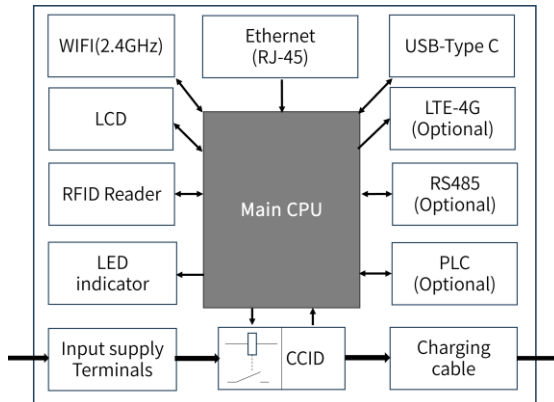

Fig. 4-2 Block diagram of TCHARGE
- The block diagram of TCHARGE AC EV charger is shown as Fig. 4-2.